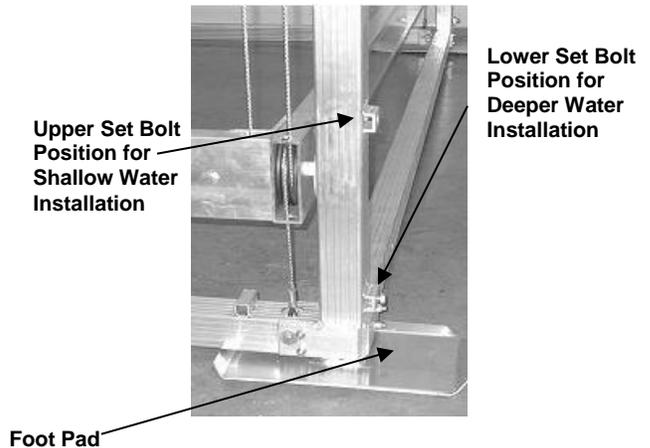

FIG. 37
3. Level the lift by adjusting the footpads accordingly. See FIG. 37.